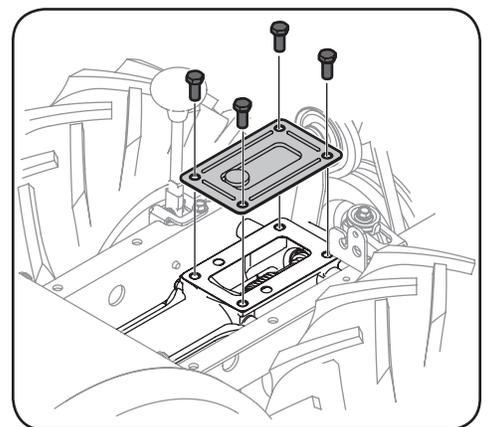

Figure 5-3
5. Remove the four hex screws (5/16-18 x .75) securing the transmission cover to the drive shaft and remove the cover. Locate the main drive shaft below the cover. See Figure 5-3.